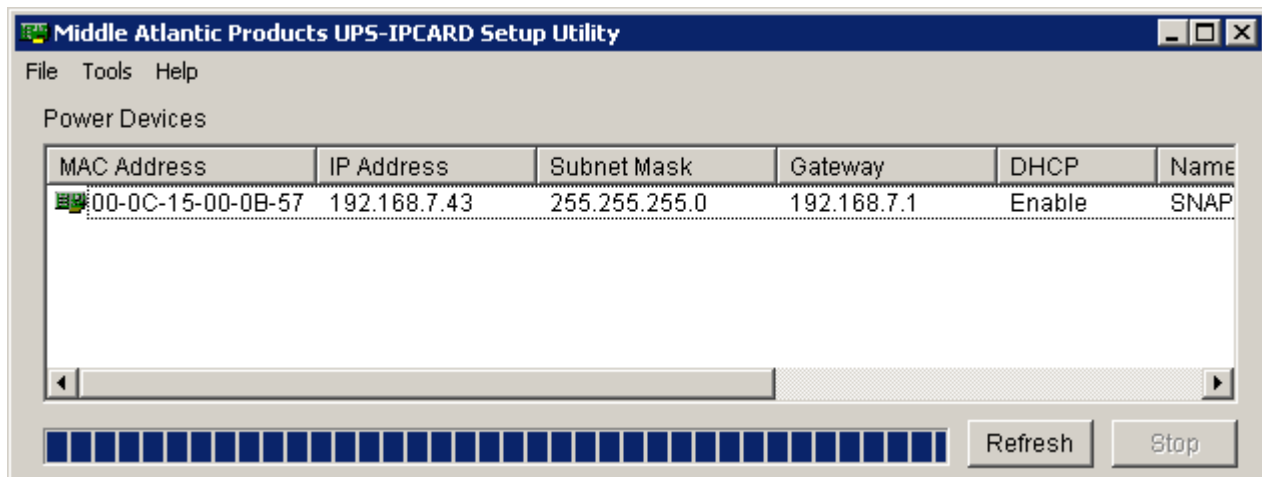

Figure 1: UPS-IPCARD Setup Utility
- 2) Connect the UPS-IPCARD to the network and use the UPS-IPCARD Setup Utility to locate and identify the card to be upgraded. See Figure 1 on the following page.